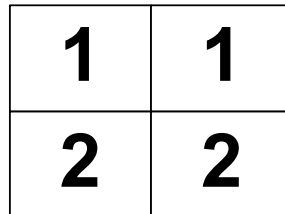

Figure 3-4. Horizontal mirroring.
- Horizontal mirroring maps L1 and L2 to the first physical name table and L3 and L4 to the second as shown in figure 3-4.